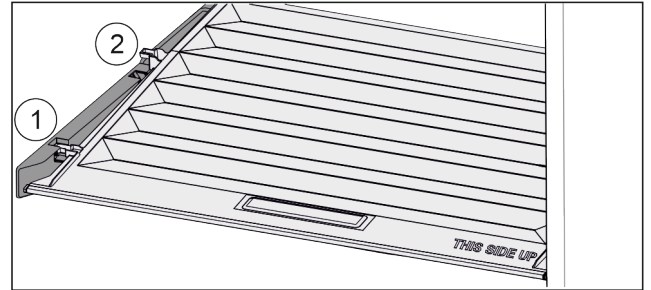

Fig. 25
- ▶ Pull the lid up at the front to the opening in the retaining parts Fig. 25 (1).
- ▶ Lift from the back and pull it up and out Fig. 25 (2).